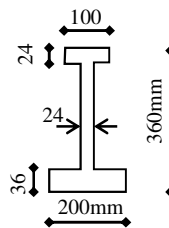

Fig. 4
3. Figure 4 shows the cross section of a beam carrying a uniformly distributed load over an effective span of 3.6m.